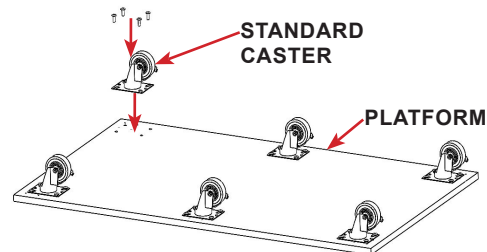

FIGURE 2.11 - Mobile Platform
STEP 1: Align the casters with the mounting holes, secure each caster using the hardware provided. See FIGURE 2.11